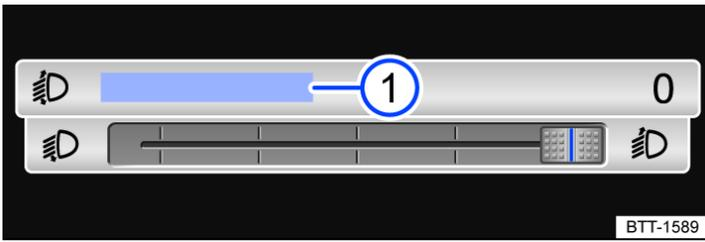

Fig. 1 In the Infotainment system: slider for headlight range control.
With some equipment levels, the headlight range can be adjusted with the slider in the Infotainment system → Fig. 1.
- Tap the function button **Headlight range control** → Fig. 1 ¹.